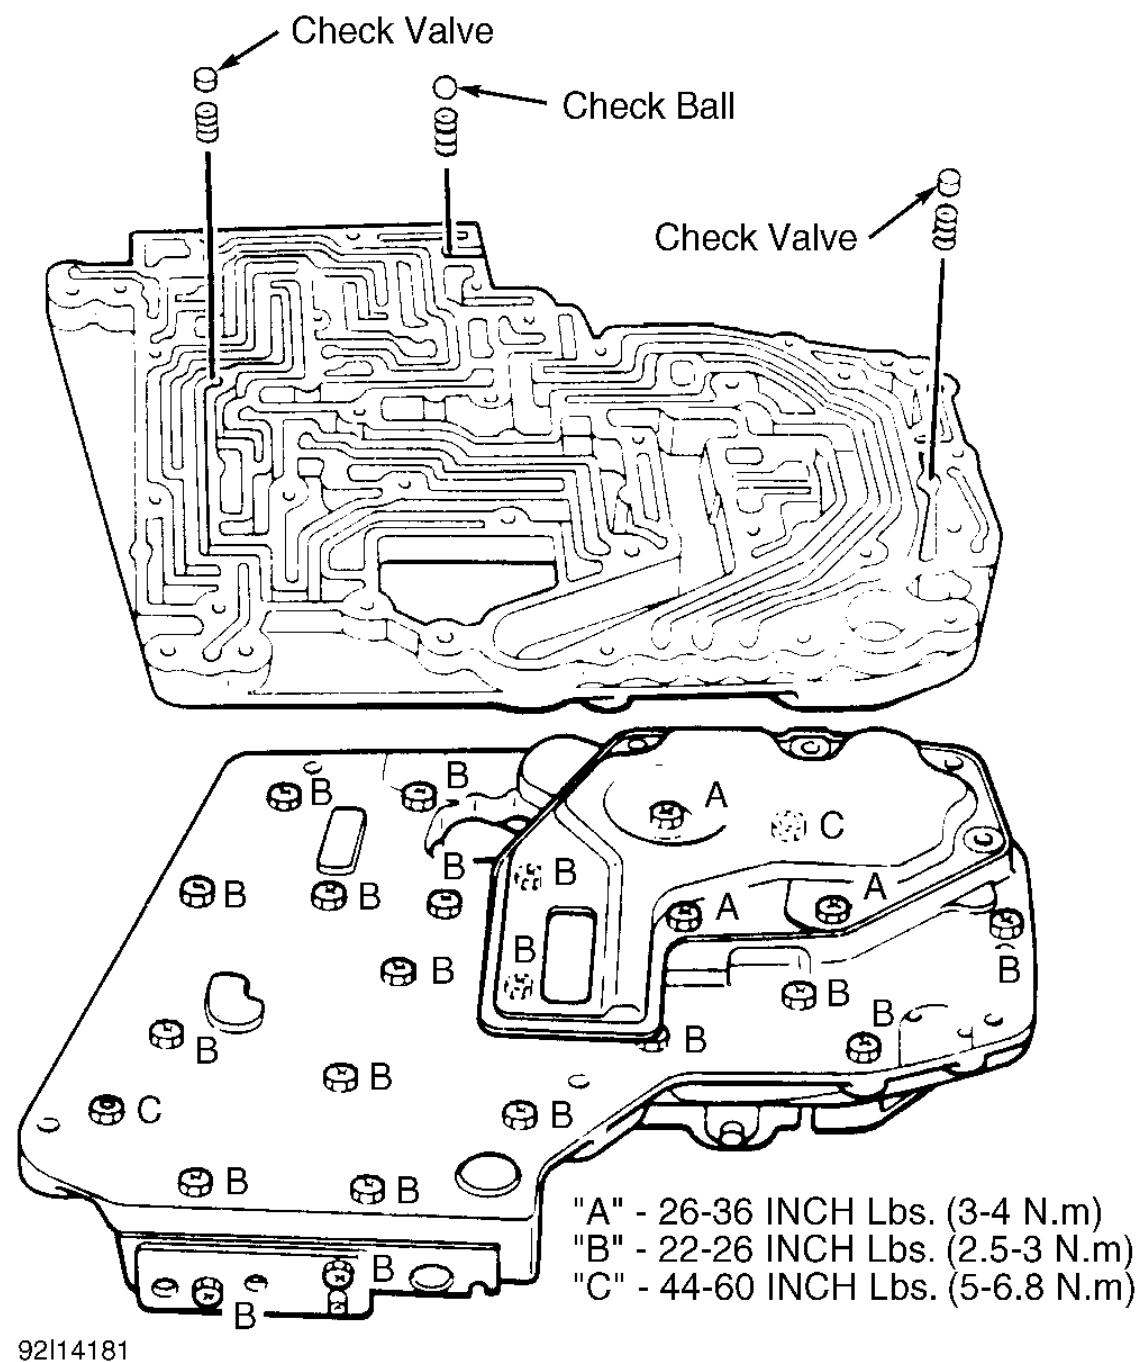

Fig. 23: Locating Valve Body Check Balls & Tightening Bolts
2. Place separator plate on lower valve body and hold with clamps. Install upper valve body and bolt into place. Tighten upper valve body to lower valve body. See Fig. 23 .